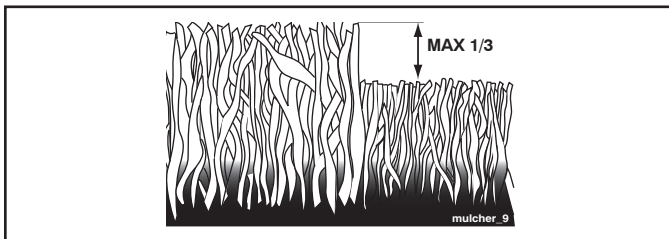

Fig. 18
- For best results, adjust the mower cutting height so that the mower cuts off only the top one-third of the grass blades (See Fig. 18). For extremely heavy mulching, reduce your width of cut on each pass and mow slowly.